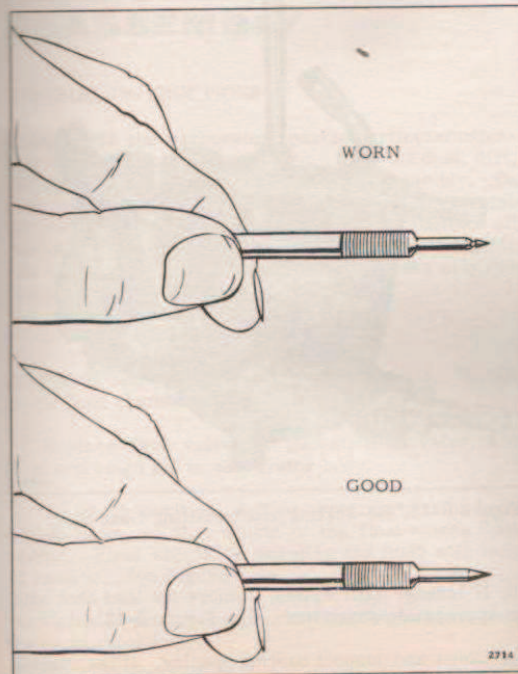

Figure 3-8. Needle Valve Wear
a. Inspect the tapered end of the needle valves for grooves, nicks, or scratches; replace if necessary. See Figure 3-8.